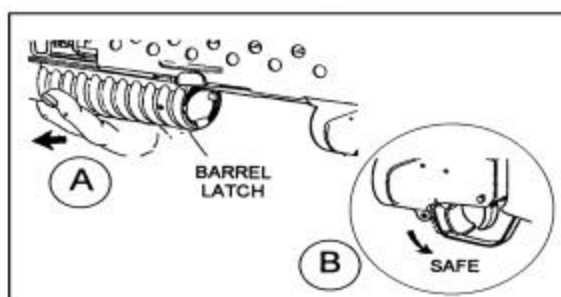

Figure 4-1. Loading the M203.
- b. Place the weapon on SAFE and keep it on SAFE until ready to fire (B. Figure 4-1).